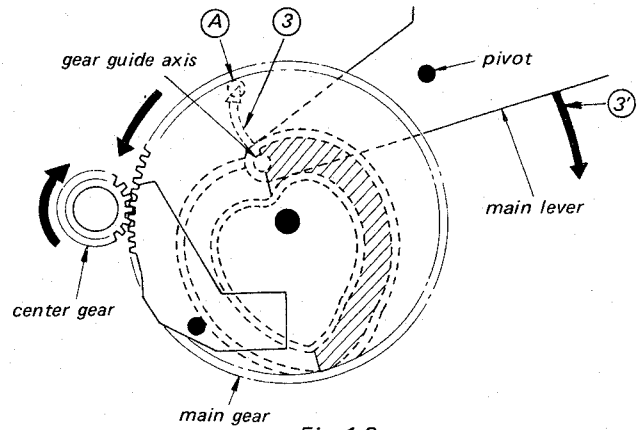
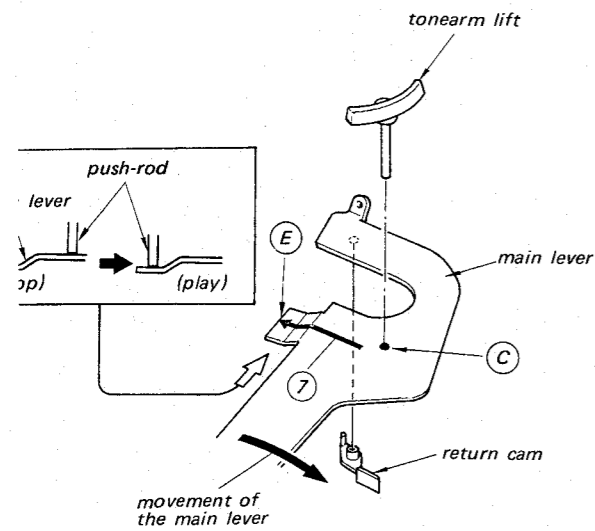
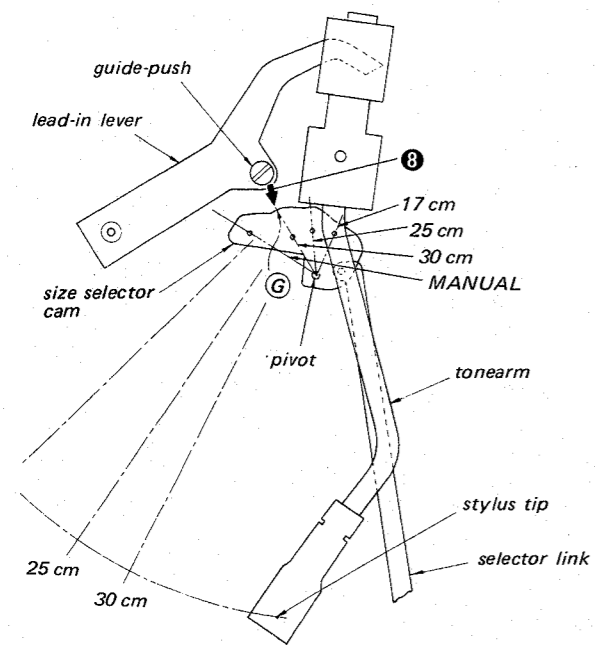
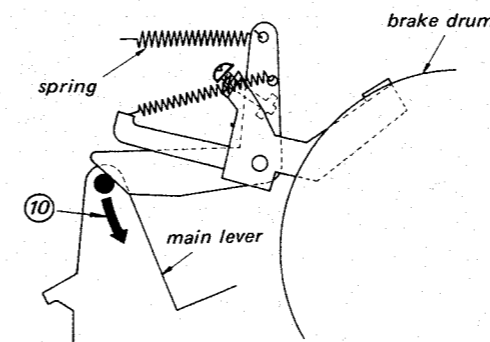

Fig. 1-3.
Fig. 1-5.
Fig. 1-6.
Fig. 1-8.
4. The gear guide axis at the tip of the main lever, is guided by the shaded section of the heart-shaped cam groove located on the main gear, moving across in a curved path ③ to position A. Therefore, the main lever moves in the direction of arrow ③. (See Fig. 1-3.)
The central axis of the push rod resting against the tonearm lifter is on the position (C) in STOP mode. (See Fig. 1-5.)
During lead-in, the main lever moves across in the direction of arrow (3) (See Fig. 1-3), resulting in the position of the central axis of the push rod moving across as shown by arrow (7). (Fig. 1-5.)
- The guide-push stops at the position determined by the surface (G) (Fig. 1-6) of the record size selector cam. The push rod consequently descends to the lower position (E) of the main lever (Fig. 1-5), resulting in the tonearm lowering onto the surface of the record for the commencement of play.
- The position where the tonearm lowers (30 cm, 25 cm, 17 cm) is determined by the position of the record size selector cam shown in Fig. 1-6. The guide-push of the lead-in lever moves across in direction of arrow (8) during lead-in, and meets the size selector cam at surface (G) (for the 30 cm example shown), thus determining the drop point at the outer edge of a 30 cm record. That is, this position determines the distance moved by the lead-in lever, which consequently determines the rotational angle of the brake drum (and of the tonearm as well). With the record size selector knob set to the MANUAL position, the lead-in lever moves a little and the tonearm does not move.
- The return cam attached to the main lever (see Fig. 1-5) pushes against the pin of the brake drum, forcing the tonearm to move back (horizontally) towards the arm rest.
- The return operation is completed when the tonearm arrives back at the arm rest. The main gear comes to a stop in the position shown in Fig. 1-3.
Furthermore, a spring is also employed to exert pressure upon the main lever in the direction of arrow (10) (see Fig. 1-8), thus keeping the main gear in the stop position. (See Fig. 1-3.)